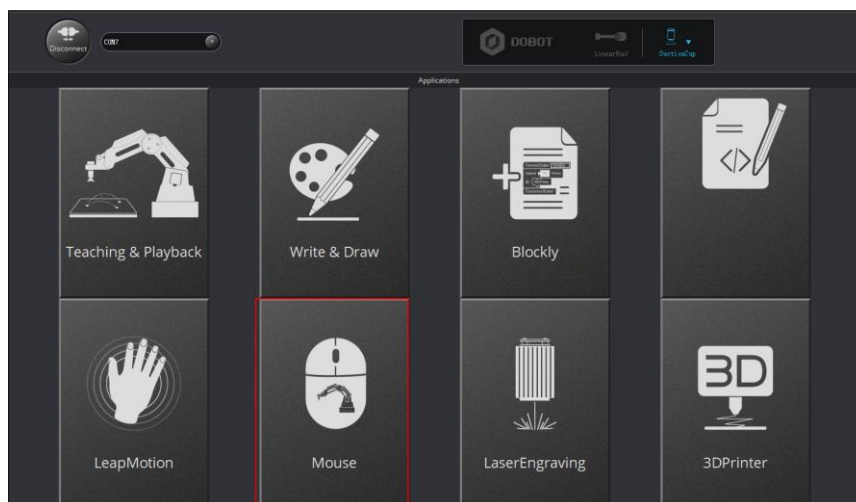

Figure 5.113 Click Mouse
Step 1 Click **Mouse**, as shown in Figure 5.113.